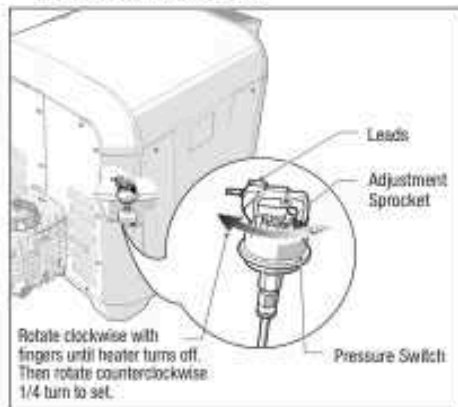

Figure 15. Water Pressure Switch Adjustment
3. Remove the side panel to gain access to the water pressure switch. See *Figure 15*.
- Slowly turn the pressure switch adjustment sprocket counterclockwise one-quarter turn. The heater should come back on. See Figure 15.